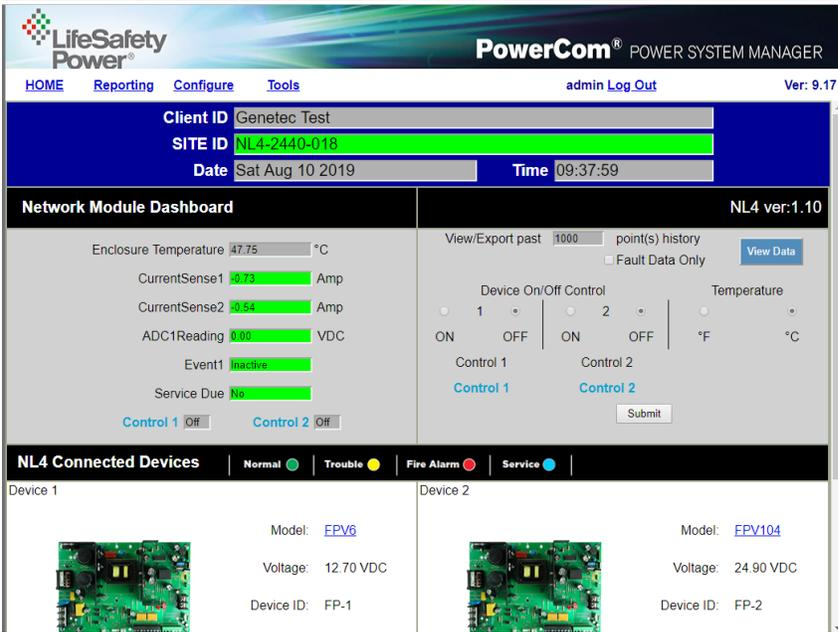

Figure 25
9. Once added, click the View button to access the NetLink's browser interface (Figure 25).